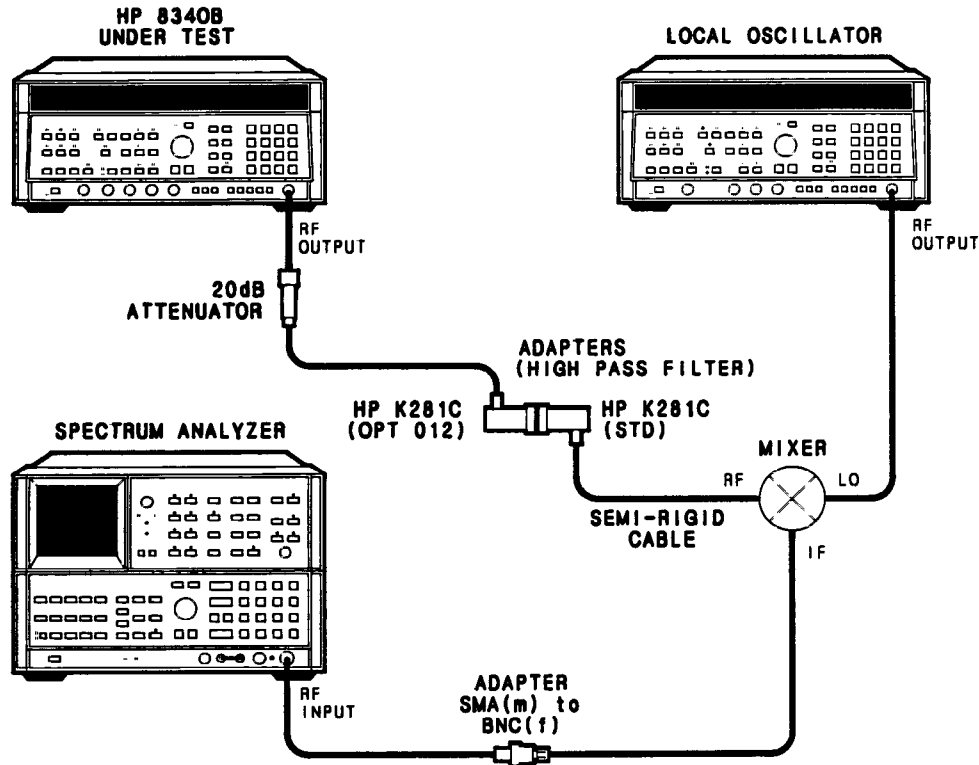

Figure 4-8. Spurious Signals Test Setup (22 to 26.5 GHz)
1. Connect equipment as shown in Figure 4-8. Allow at least a one hour warm up time. On the LO, press [INSTR PRESET] and [PEAK] (turns PEAK on).